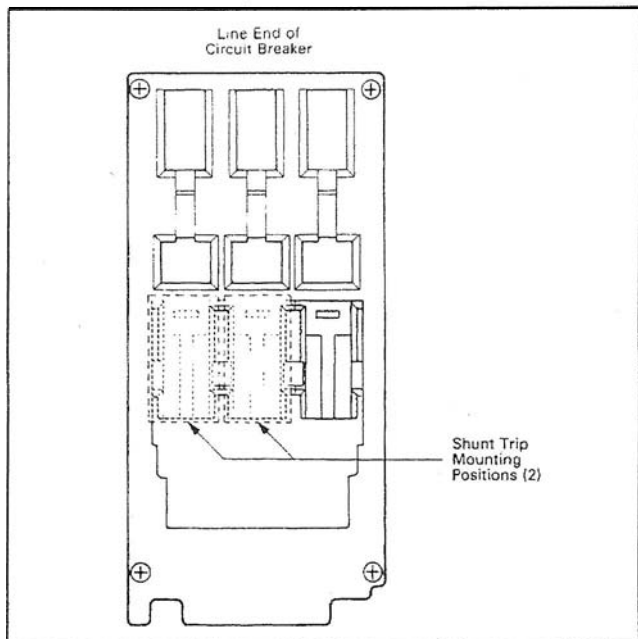

Fig. 2-2 Accessory Location Diagram.
- Select position for shunt trip on accessory mounting deck (see Fig 2-2).